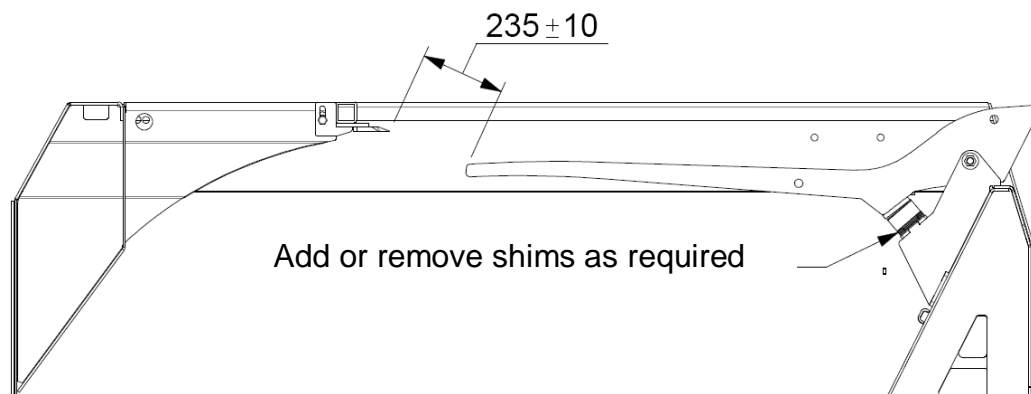

Figure 16: BaleBlend tine to top knife setting
- 3: The rubber buffer should also be checked for wear or signs of damage, which may affect its shock absorption. Optimum tine-to-top-knife gap is $235 \text{ mm} \pm 10 \text{ mm}$ but may vary depending on application and the design of the tine fitted. Please consult your local service center for settings. The optimum distance from the ring to the top of the castellation is $20 \text{ mm} \pm 2 \text{ mm}$ on the rear of the ring (Series II BaleBlend machines only — see Figure 16).